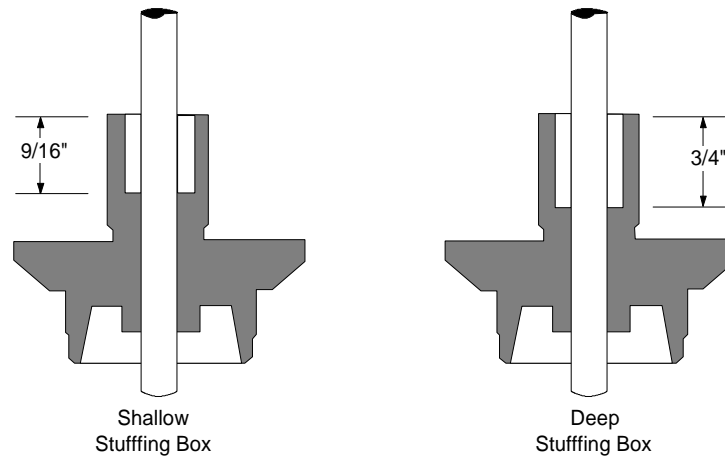

Figure 4: Depth Comparison
14. Determine whether the stuffing box is deep or shallow by measuring the inside and comparing it to the drawings in Figure 4.